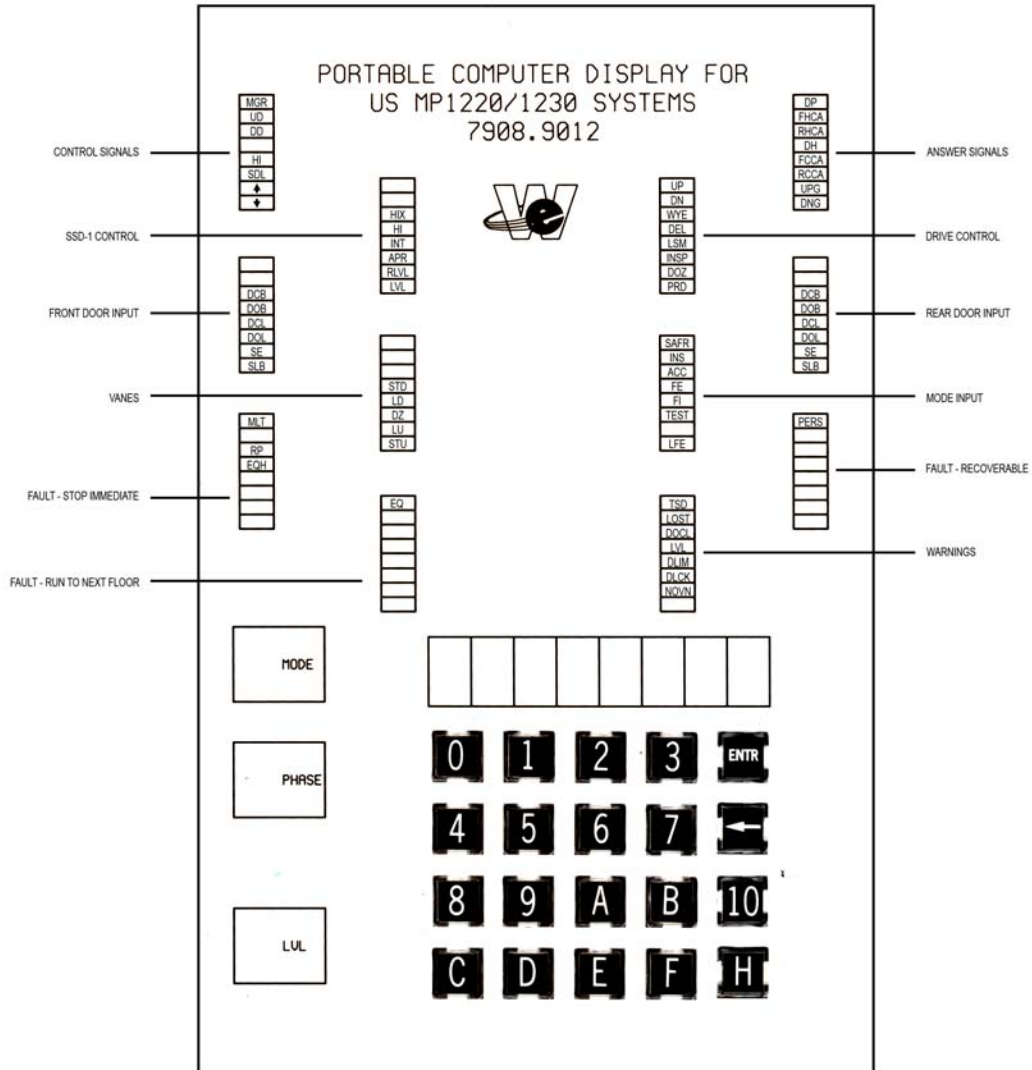

FIGURE 1-3
- 1 = Fault Information (Figure 1-3)